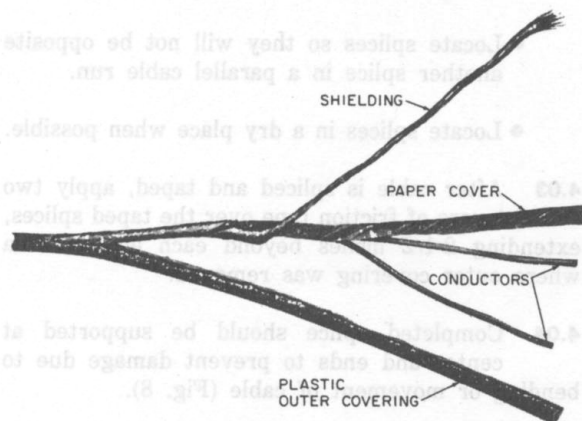
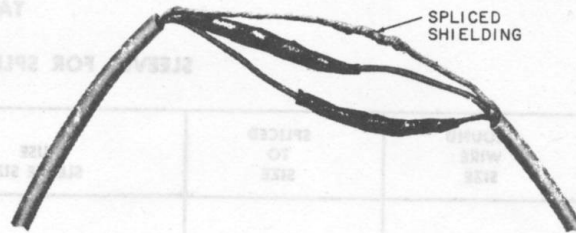

Fig. 5—Unwinding Shield of SK Shielded Wire
Fig. 6—Shielded Wire Splice
- (1) Remove outer covering for about 6 inches being careful not to cut or break shielding braid.
- (2) Unwind shielding wire from around paper covering of conductors and remove paper covering (Fig. 5).
- (3) Twist shielding wire so as to simulate a single wire.
- (4) Splice conductors in normal manner using S-032-025 brass sleeves.
- (5) Splice ends of twisted shielding wire by twisting together and soldering the twist. A 1/2- to 3/4-inch soldered joint is sufficient (Fig. 6).
- (6) Tape the splices and the soldered joint as outlined in 2.07(5).
- (7) At end of wire run, a tail may be made for grounding shield wire by following steps (1), (2), and (3).